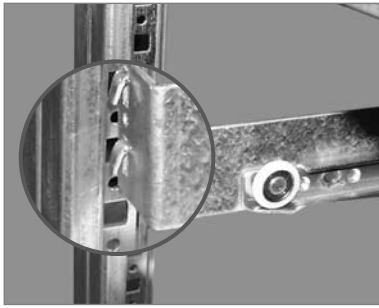
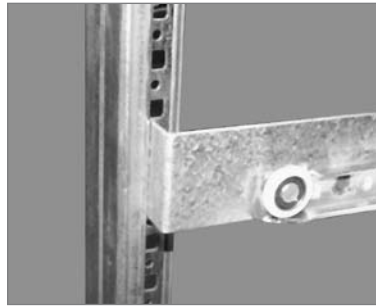

Fig. 1
Fig. 2
- Insert the front side of the lateral guide into the support profile (Fig. 1 and Fig. 2).